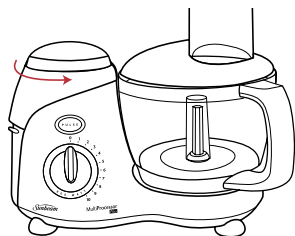

Fig 1
2. Fit the safety cover onto the food processor body. Simply place the safety cover and twist anti-clockwise, see Figure 1.